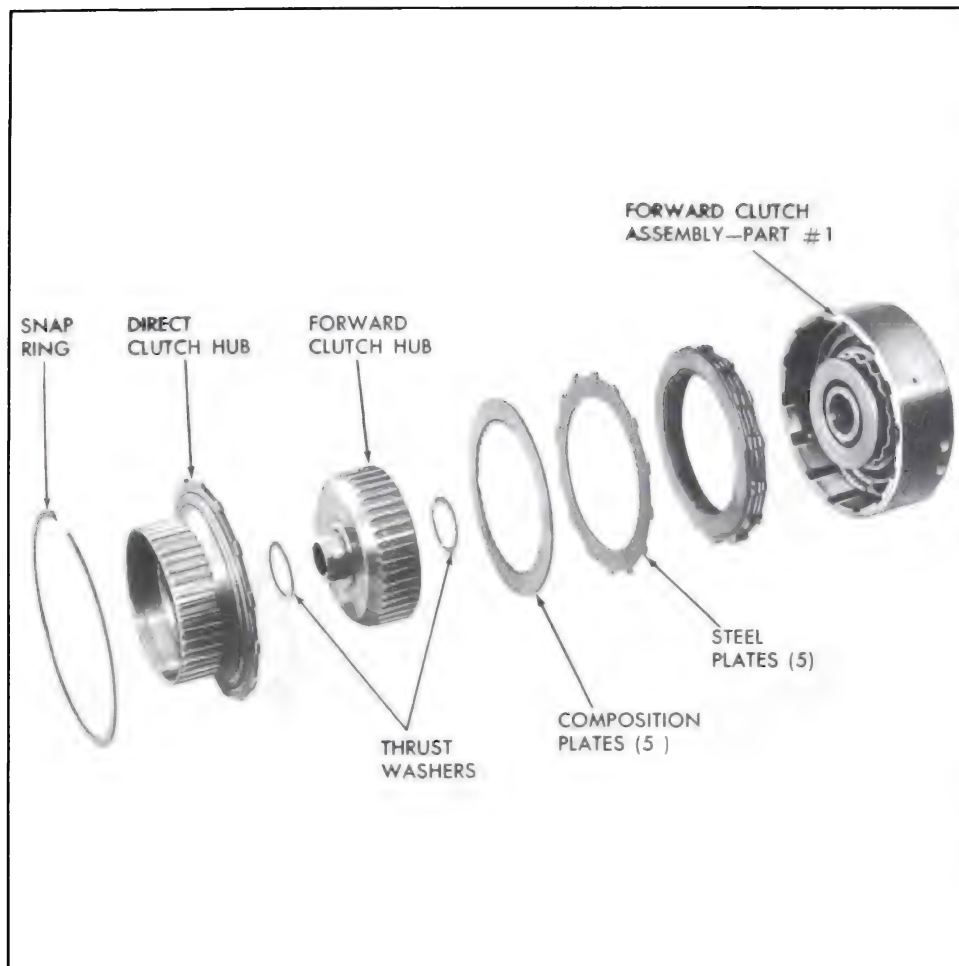

Figure 5-611
1. Inspect the drive and driven clutch plates for signs of burning, scoring, or wear. See Figure 5-611.